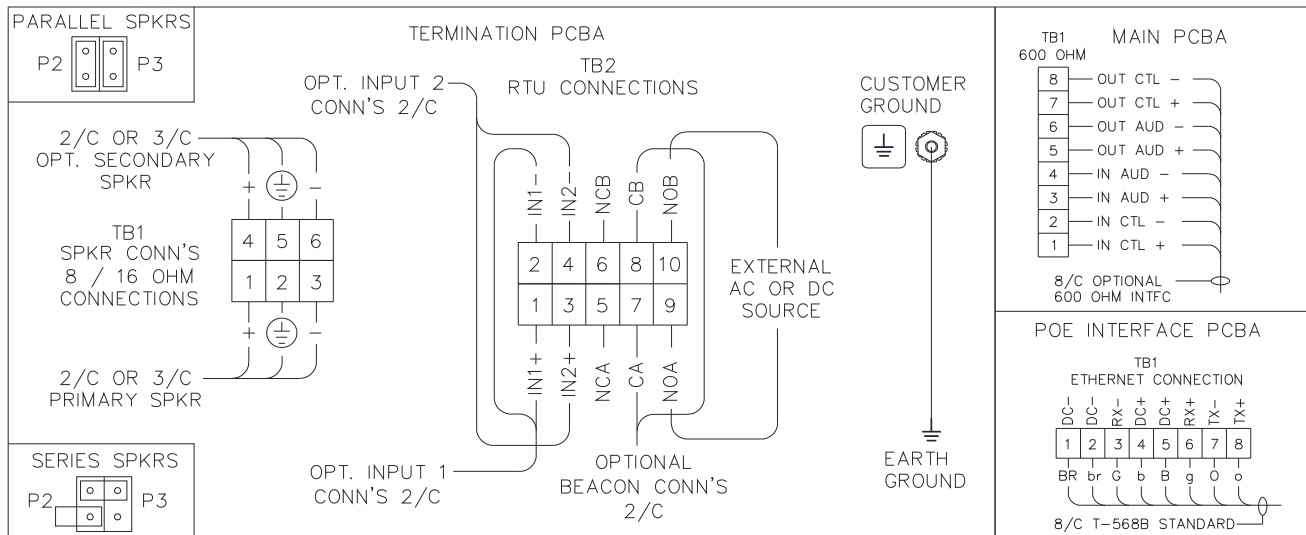

Figure 3. HUBBCOM PoE Weatherproof Connection Diagram
HUBBCOM stations provide terminal blocks, on the termination PCBA, located in the rear enclosure, for field wiring the speaker and RTU connections. The main PCBA, mounted to the back of the front panel, provides a pluggable terminal block for the 600-ohm audio connection. The PoE interface PCBA, mounted on top of the main PCBA, provides a pluggable terminal block for the PoE connection (see Figure 3).
5. Configure the speaker jumpers, P2 and P3, for the impedance of the connected speakers (see Figure 3).
9. Terminate the PoE connection to terminal block TB1 on the PoE interface PCBA (see Figure 3).